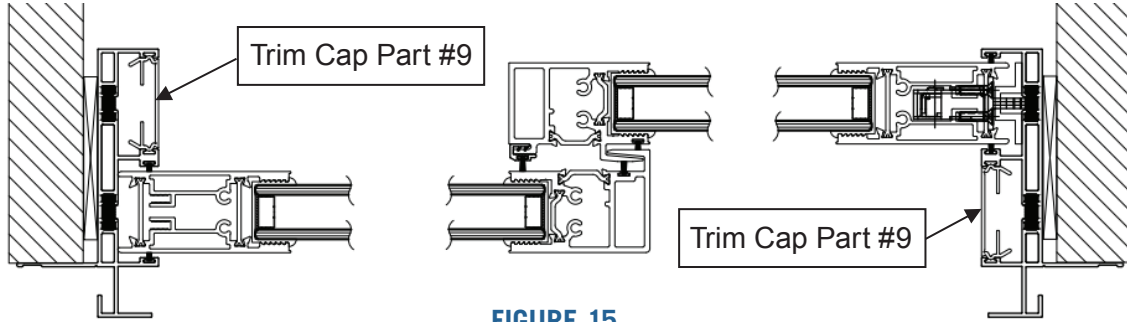

FIGURE 15
18. Install exterior and interior trim caps (Part #9) in jambs as shown in Figure 15.